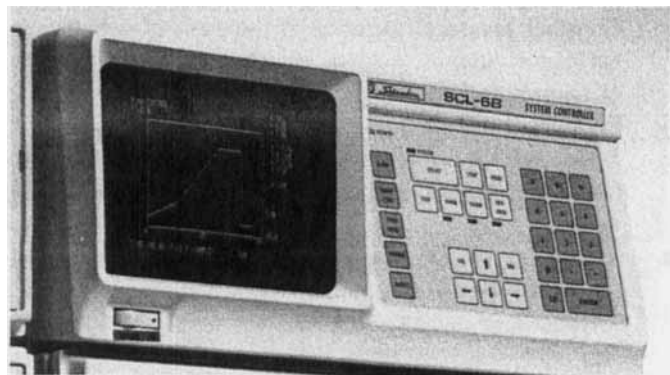

FIGURE 50. Shimadzu SCL-6A controller that can time control high-pressure three-eluent gradients, valves, detectors, data processing, etc. (With permission.)
5. Three-pumps can be used for three-eluant gradients by high-pressure generation, using the SCL-6A controller (with appropriate interfaces) (Figure 50). This controller can operate also the column oven, two six-port high-pressure valves, two low-pressure six-solvent selection valves, an autoinjector, and the UV, electrochemical, fluorescence, and refractive index detectors.